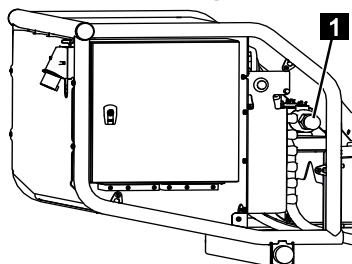

Fig. 190
7. After emergency operation, unlock the valve (Fig.190/1) by turning it anti-clockwise and screw the covers back into place on both sides.